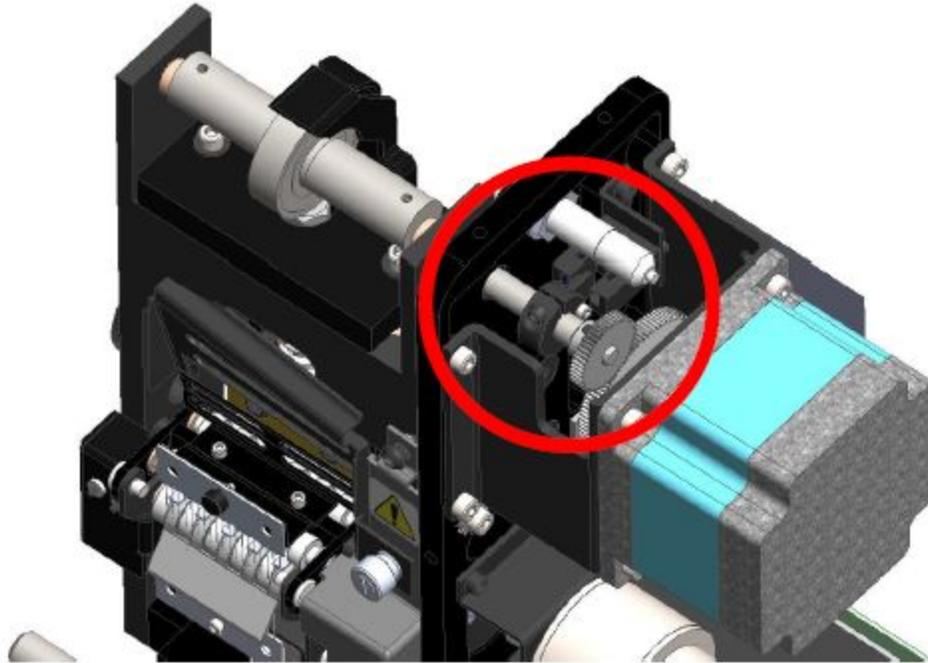

FIGURE 20
2. Adjust cam to Top Dead Center (TDC) position as shown in figure 20 by rotating cam until flag is centered in C sensor block.